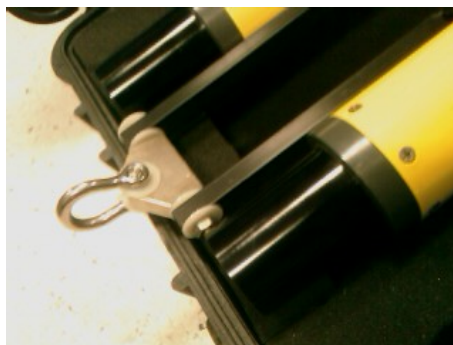

Figure 3.4: Detail of the anchor ring
2. Use a rope with at least 2 meters to tie the equipment that will have to be recovered to the anchor ring. Figure 3.4 shows the anchor ring.